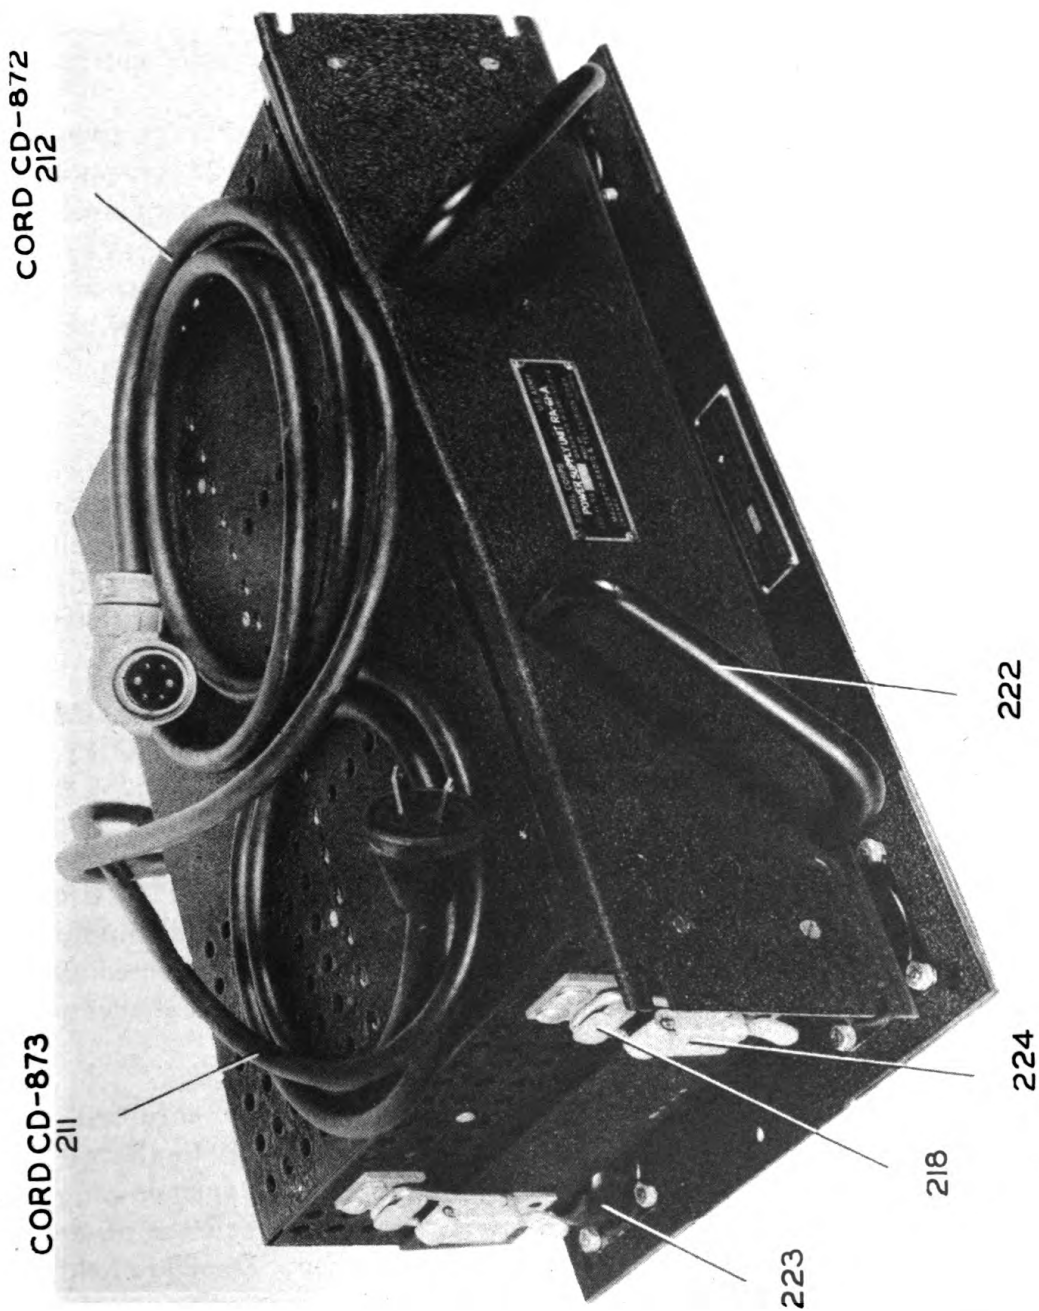
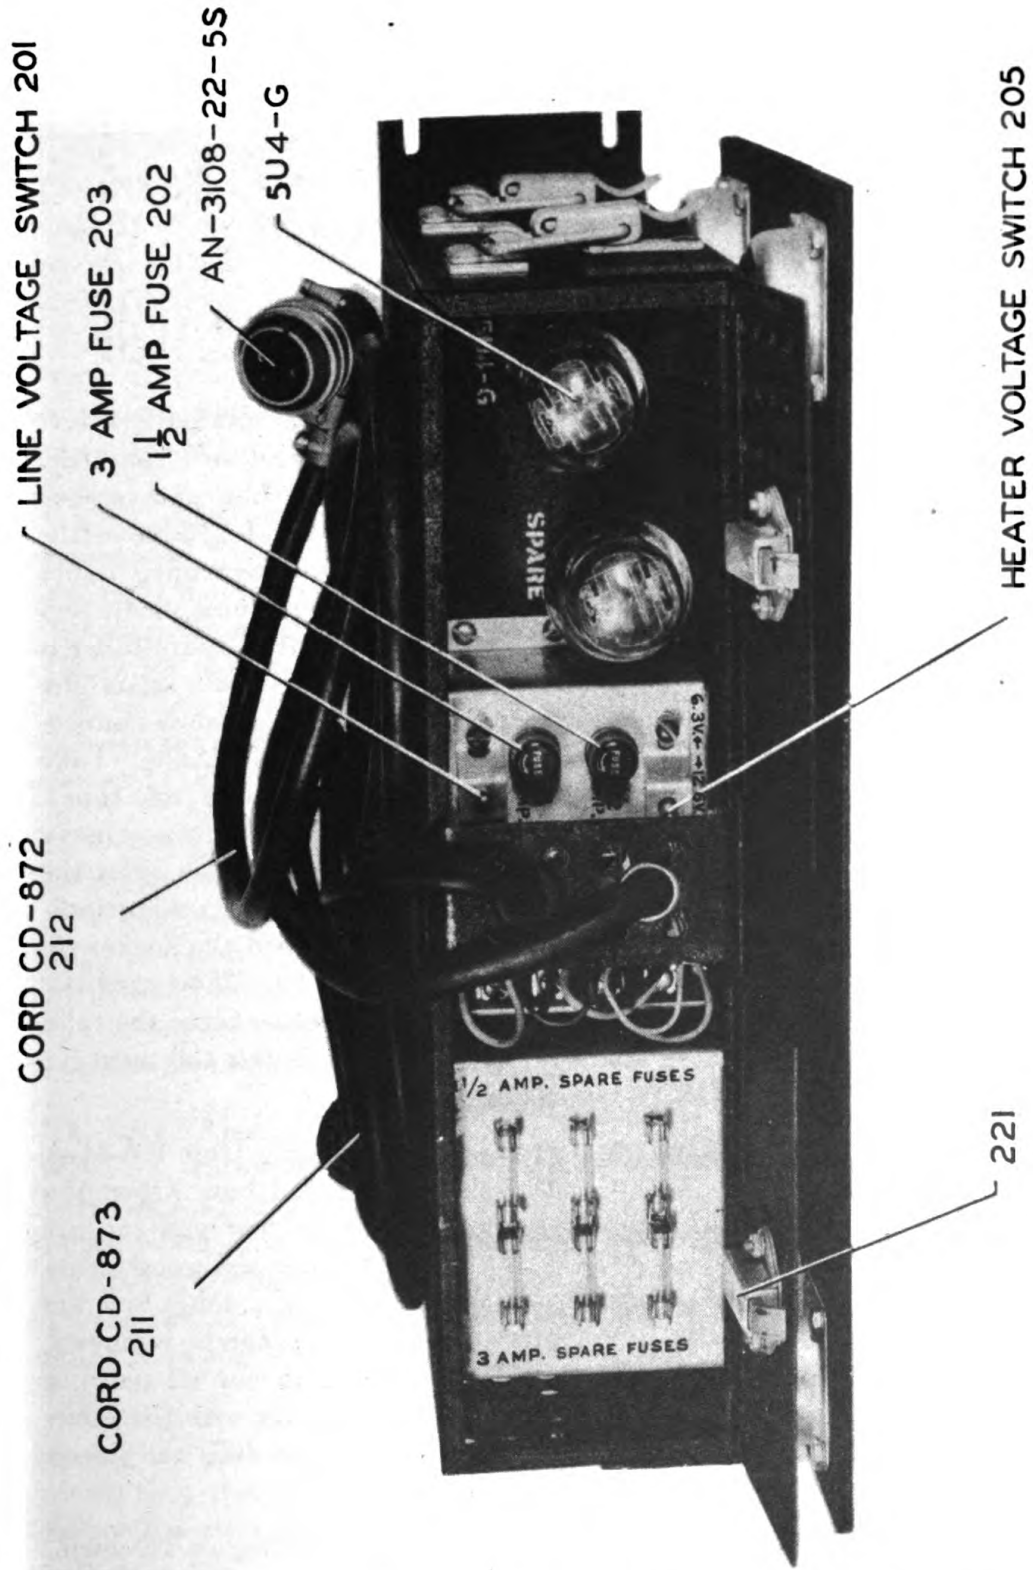

Figure 4. Power Supply Unit RA-61-A on Mounting FT-414, diagonal view
Figure 5. Power Supply Unit RA-61-A, on Mounting FT-414, back view
6. POWER SUPPLY UNIT RA-61-A.—a. General.—Power Supply Unit RA-61-A (figure 4) supplies a-c heater voltage and d-c plate potentials to the receiver. It is in a case and the front panel has slots for mounting in a relay rack. When used in vehicles it is mounted on Mounting FT-414. Cord CD-873 connects it to the line supply and Cord CD-872 connects it to the receiver. The power unit has two 5U4G rectifier tubes, one in use and one spare. These tubes are inside the right hand door (figure 5) with a ring catch at the back. The power unit is turned on and off by the POWER ON-OFF switch on the front panel of the receiver.
b. Power input.—Power Supply Unit RA-61-A will work from either 115 or 230 volts 50 to 60 cycles alternating current. Inside the right hand back door (figure 5) is a line voltage switch which must be thrown
d. Fuses.—Between the two switches mentioned above are two fuses marked $1\frac{1}{2}$ AMP. and 3 AMP. These are on the incoming supply line; the $1\frac{1}{2}$ AMP. for a 230-volt line and the 3 AMP. for a 115-volt line. Be sure the line voltage switch is in the correct position or you will burn out a fuse. There are three spare fuses of each size inside the left hand door (figure 5).